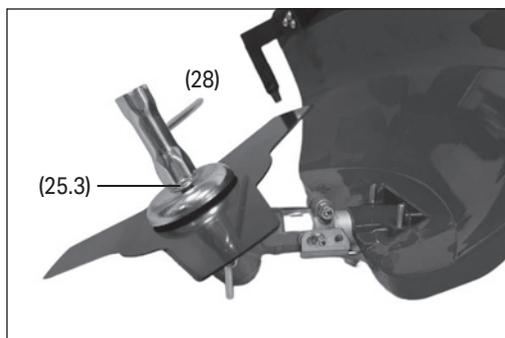

Fig.9
6.5 Fitting the Cutting Blade (Fig.7 – Fig.9)